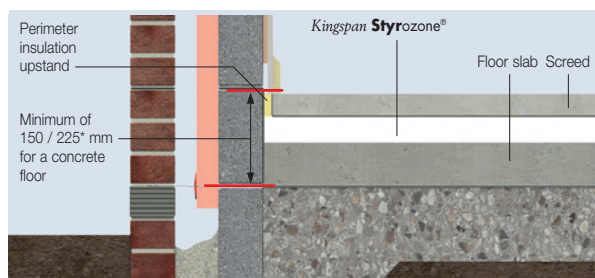

Figure 1 – Complete Masonry Floor Insulation
For buildings with relatively small ground floor areas (primarily domestic properties), if the ground floor is left uninsulated, the thermal performance will be poor. To enhance the thermal performance, complete insulation of the ground floor should be adopted (Figure 1).
- In order to minimise cold bridging at the edge of the floor, the distance between the top surface of the floor insulation or perimeter insulation upstand, and the bottom of the wall insulation must be a minimum of 150 / 225* mm for a concrete floor (see Figures 1 & 2). The further down the wall insulation extends past the floor insulation, the better the thermal performance of the junction between the wall and the floor.